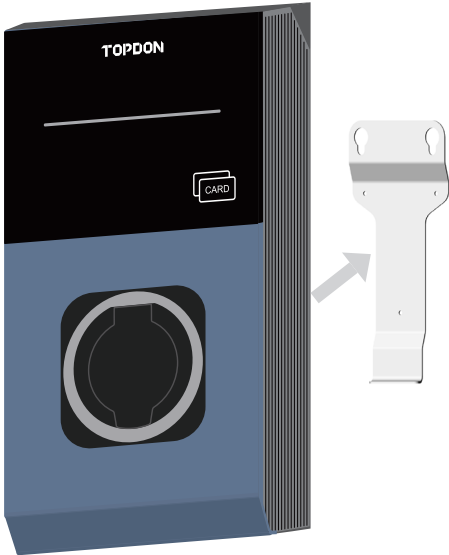

Fig. 5-8
6. Attach the charger to the bracket. (See Fig. 5-8)